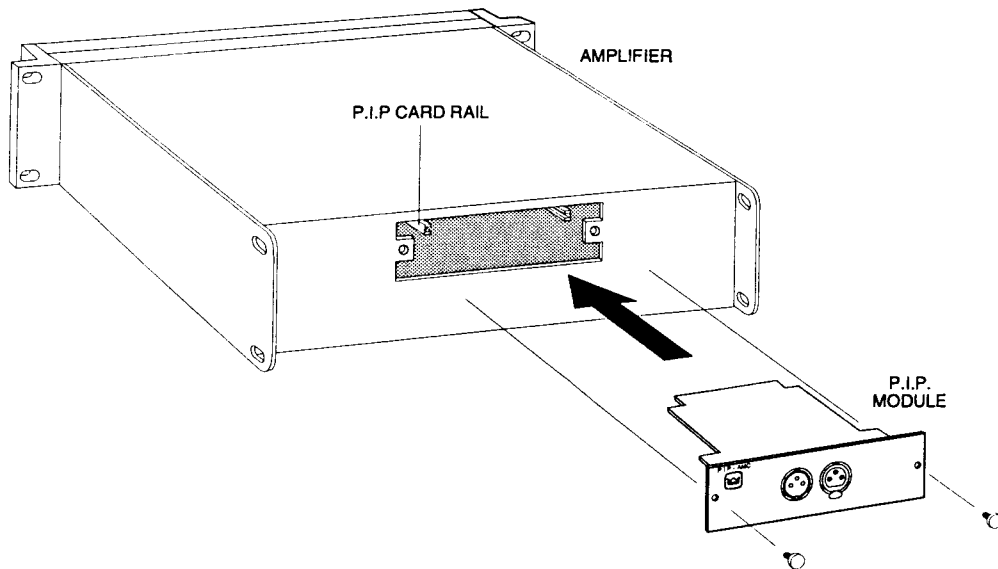

Fig. 3.12 *P.I.P.* Installation
3. Align the edge connector of the *P.I.P.-AMC* circuit board into the *P.I.P.* card rails, as shown in Figure 3.12.
shown in Figure 3.12.